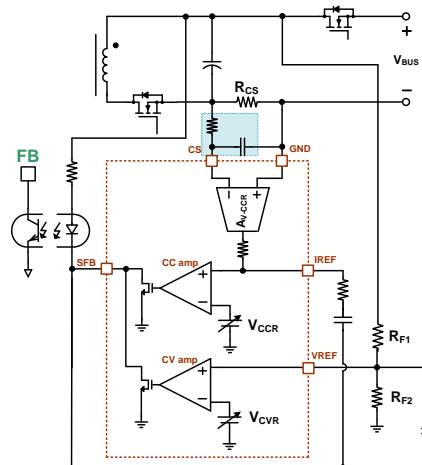

Figure 24 Constant Voltage and Constant Current Circuit
The internal constant voltage control block regulates adaptive output voltages. Output voltage is sensed through an external resistor divider. The sensed output voltage is connected to the VREF which is the non-inverting input terminal of the internal operational amplifier. The inverting input terminal is connected to the internal voltage reference (V_{CVR}) which can be adjusted according to the requested output voltage via Quick Charge 3.0 protocol. The amplifier and an internal switch operate as a shunt regulator. The output of the shunt regulator is connected to the external opto-coupler, and this pin is named as Secondary Feedback (SFB). To compensate output voltage regulation being stable, one capacitor and one resistor are connected typically between the SFB and VREF pins as shown in Figure 24. The output voltage can be derived as shown in equation (1) and the recommended ratio of the resistor divider is 5.
In order to support adaptive constant output current, FAN6291Q incorporates the constant-current control circuit internally. Output current is sensed via a current-sense resistor, R_{CS}, which is connected between the CS pin and GND pin. The sensed signal is internally amplified, and this amplified voltage is connected to the non-inverting input of the internal operation amplifier. Likewise the constant voltage amplifier circuit, it also plays a role as a shunt regulator to regulate the constant output current. In order to compensate output current regulation, one capacitor and one resistor are connected between IREF and SFB pins typically as the Figure 24. The constant output current is decided by the equation (2). 30 mΩ is typically used for the sense resistor.
Since CS pin senses small amounts of voltage, the sensing resistor should be positioned as close as possible to CS pin. Shown in Figure 24, an RC low pass filter can be added on the CS pin to be immunized from noise.